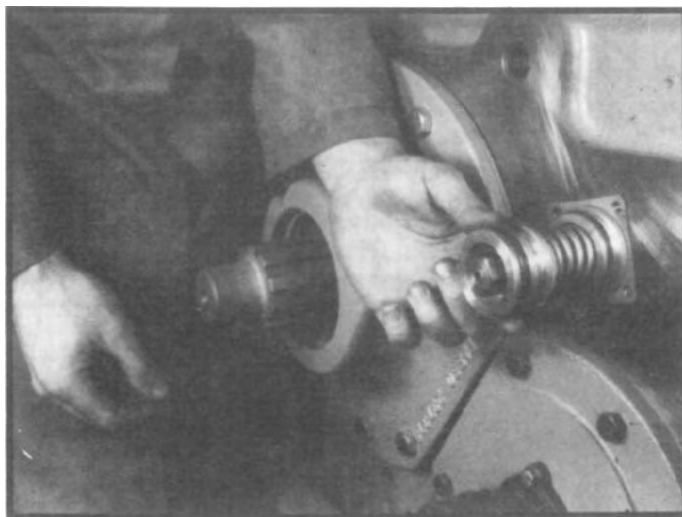

Fig. 198
9. Place an oil soaked felt wiper in shallow groove on piston and an o-ring into deep groove. (See fig. 198 and 167.) Tighten shift shaft nut to correct torque. Install and tighten set screw, if so equipped.